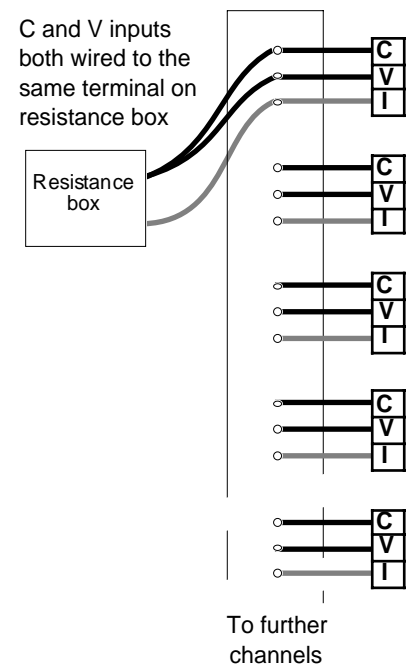

Figure 3.2.4 Resistance wiring
1. It is recommended that to save time, all the channels to be checked are connected to a terminal block as indicated in figure 3.2.4. For low resistance values, the resistance of the wiring from resistance box to input termination may have an effect. Ensure that a suitable gauge of wire is used. Ensure that the terminal cover is in place after wiring.